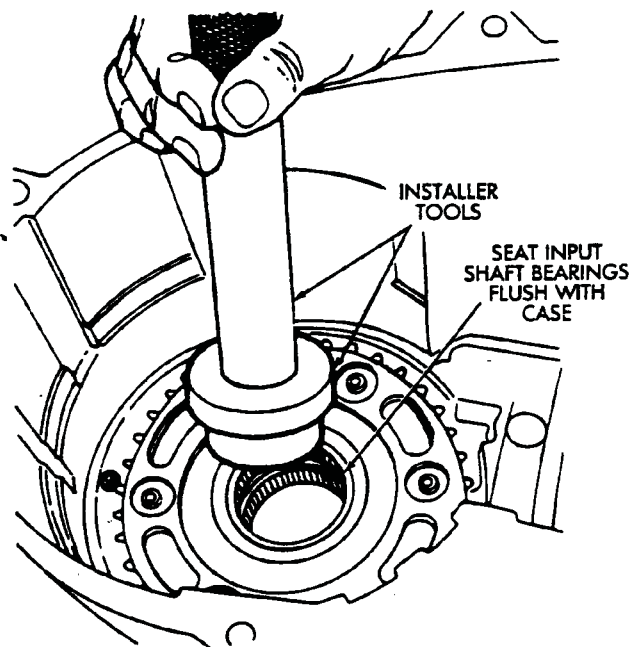

Fig. 4-33 Installing Input Gear Bearings
14. **Install the new input gear bearings one at a time.** Install the rear bearing first; then install the front bearing (Fig. 4-33).